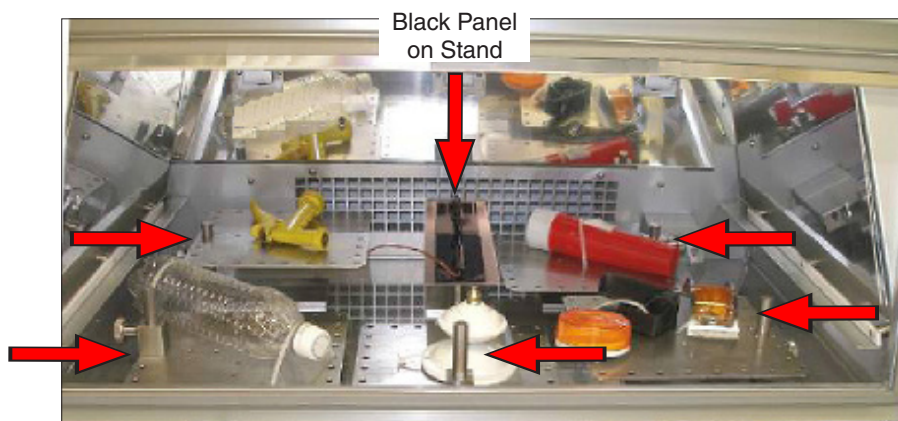

Figure 14.5b: Specimens mounted on 3D specimen stands.
NOTE: When using specimen stands, place all five (5) of the stands in the test chamber (Figure 14.5b), even if there are not specimens on all the stands. The stands should be spaced uniformly in the chamber and to cover the RH/ Chamber air sensor. Failure to properly position all stands in the chamber may result in *M18 Chamber Air Too Hot* error messages. The black panel must also be placed on the black panel stand included in the kit.